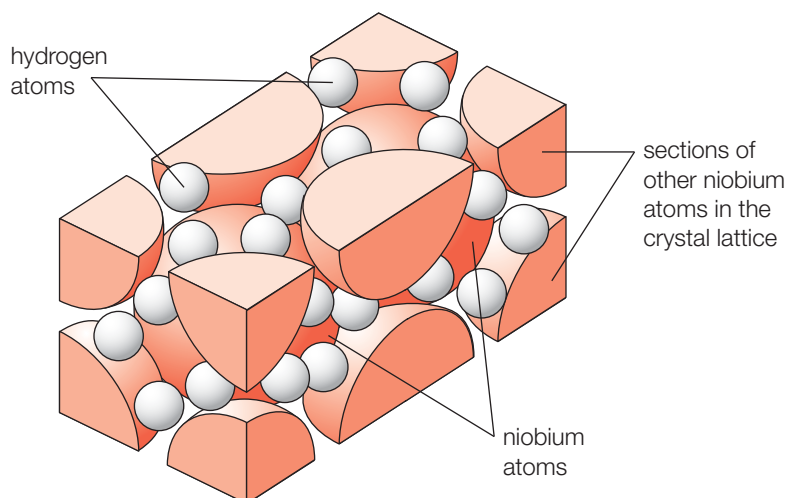

Figure 15.23 ◀
When hydrogen reacts with a metal to form its hydride, hydrogen molecules (H_2) are first adsorbed onto the surface of the metal. Some of the molecules dissociate into hydrogen atoms (H) and are absorbed deeper into the metal lattice as they react to form the metal hydride (Figure 15.23).